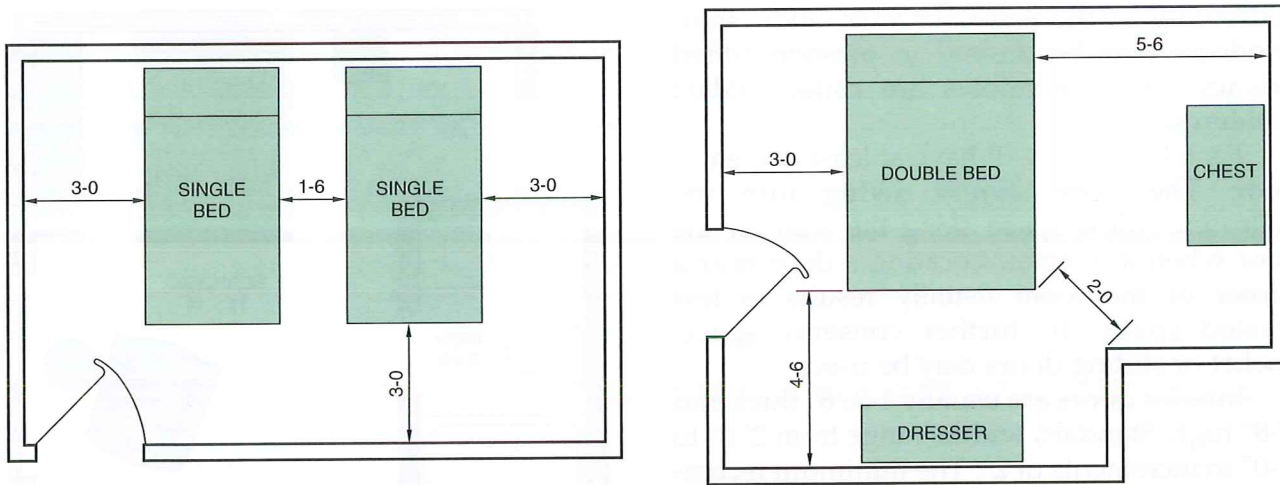

Figure 7-11. Examples of minimum space clearances for bedroom furniture.
the same scale as the floor plan; (3) Move and rotate the symbols as needed to create the desired arrangement; (4) Assign appropriate linetypes and colors. Be sure to allow adequate clearance between the various room elements, as in Figure 7-11. This method can also be completed in manual drafting by creating “cutouts” of the furniture. Then, arrange the cutouts, trace them, and darken the lines.